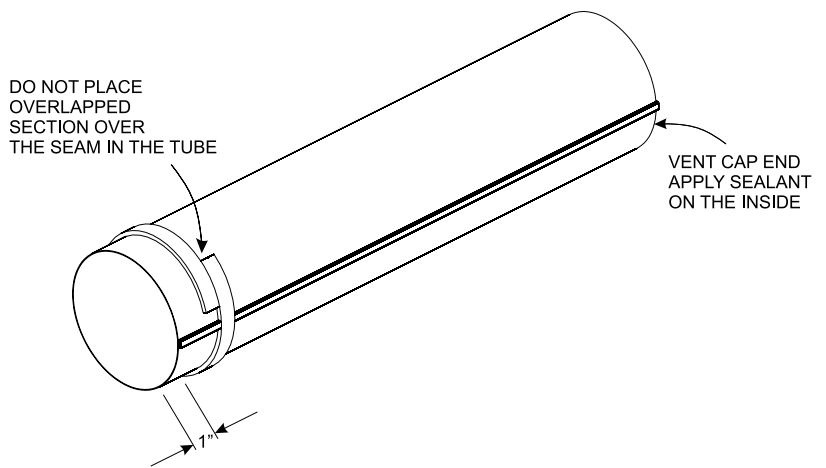

Figure 55
12. Seal the 4" (102 mm) diameter flue outlet tube. Follow instructions and diagram (Figure 55).
If the air inlet and flue outlet tubes are to be connected directly to the unit (no rigid venting system is being used), then the gasket provided must be used to seal the 4" (102 mm) flue outlet tube. Peel the paper off the self-adhesive gasket and then wrap it around the end of the tube (if tube was cut, it is recommended to use cut end) as shown in **Figure 55**. Pull the gasket tight at all times while wrapping it around tube. The gasket ends should align, to form a complete seal. The overlapped section should NOT come in contact with the seam in the tube. Apply high temperature sealant to the opposite end of the tube (on the inside of the tube). The end with the gasket will attach to the back of the unit. Continue with Step 13.